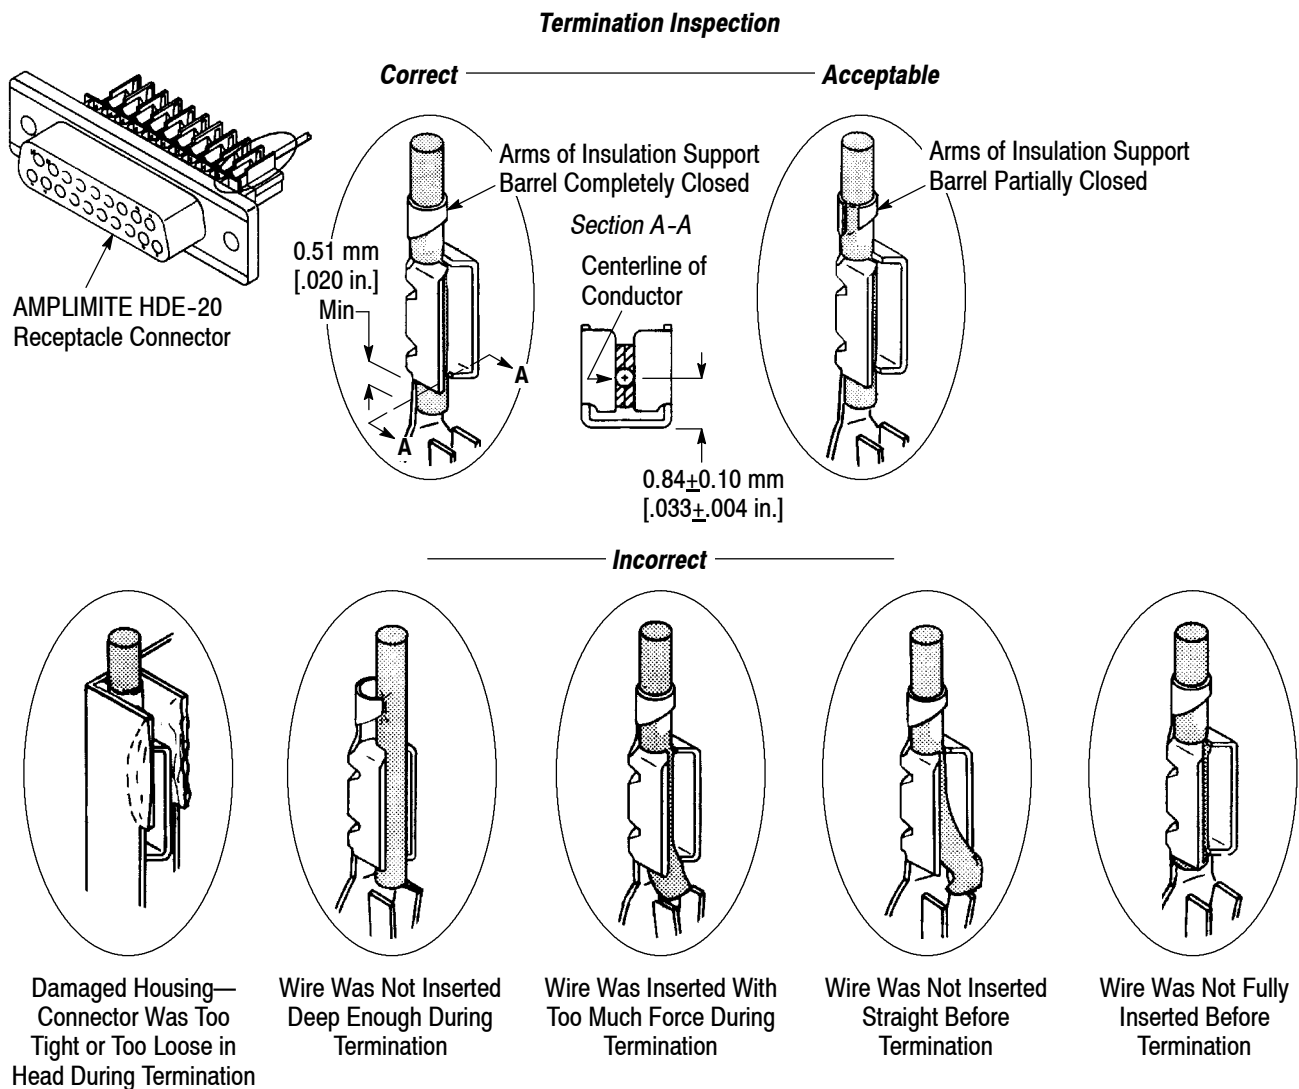

Figure 4
6. Inspect each terminated contact according to Figure 4. If any contact does not meet the requirements, DO NOT use the connector. Refer to Section 4 for adjustments.